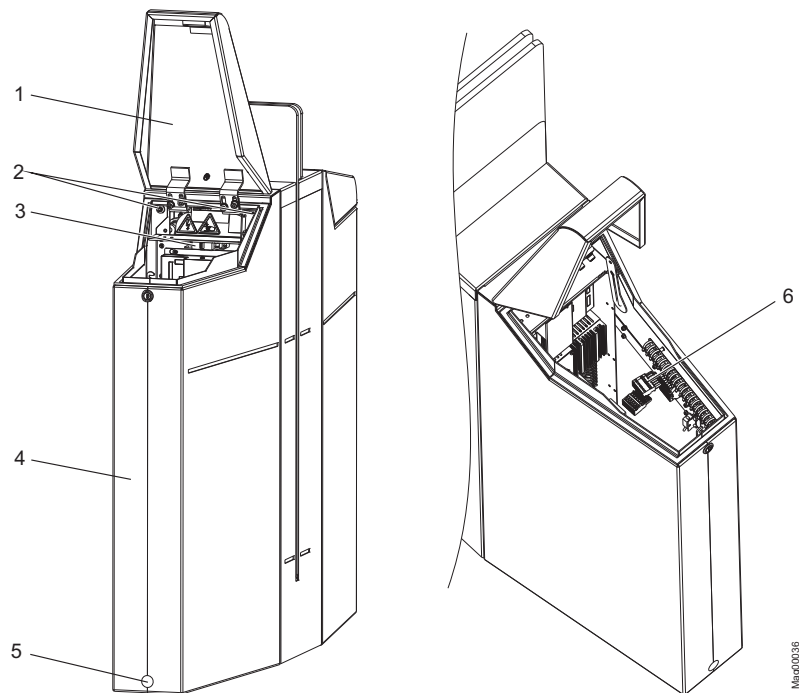

Fig. 32: Dismantle end housing
7. Loosen the connecting screws in the two upper corners. See Fig. 32.
12. Assemble end housing. Refer to Page 92, Fig. 32.